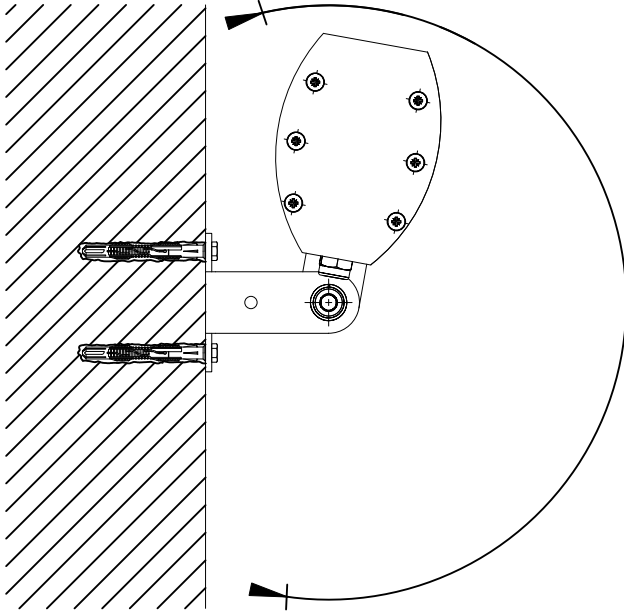

Fig. 3
- Adjust the angle of the luminaire. (Fig. 3)
- Stabilize the angle by tightening the screws. (Fig. 3)